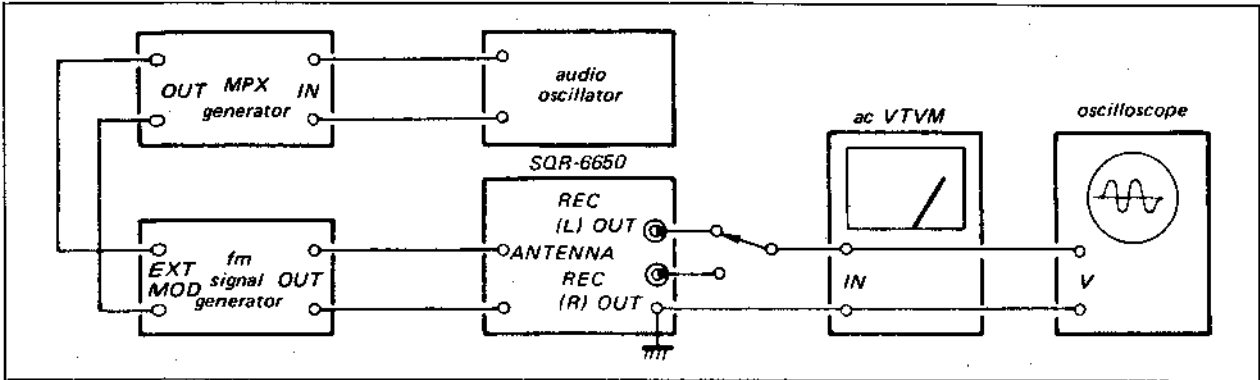

Fig. 3-13. Fm stereo separation adjustment test setup
1. Connect the equipment as shown in Fig. 3-13. Set the fm signal generator control as follows:
- (a) With the equipment connected as shown in Fig. 3-13 set the MPX stereo generator controls as follows.